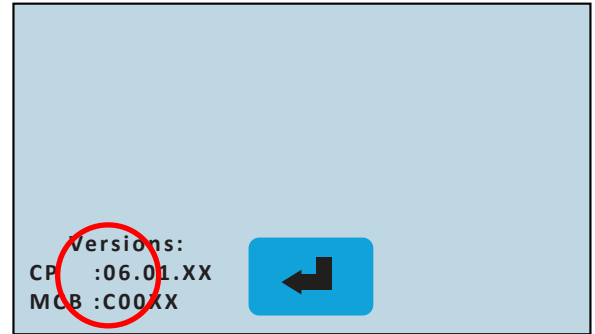

Fig. 36
- Press and hold the center of the Version Information, circled in red, for 5 seconds (Fig. 36).